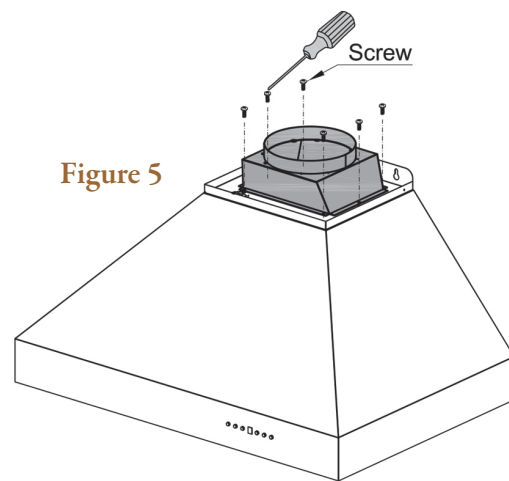

Figure 5
- 6 Install the transition piece securing it with screws provided. (Figure 5)
- 6 Make your electrical and ducting connections. Try and minimize the use of elbows. More elbows and longer runs create higher static pressure. The hood comes with a grounded three prong plug that can either be direct wire or plugged into a 20amp. circuit. (Figure 5)